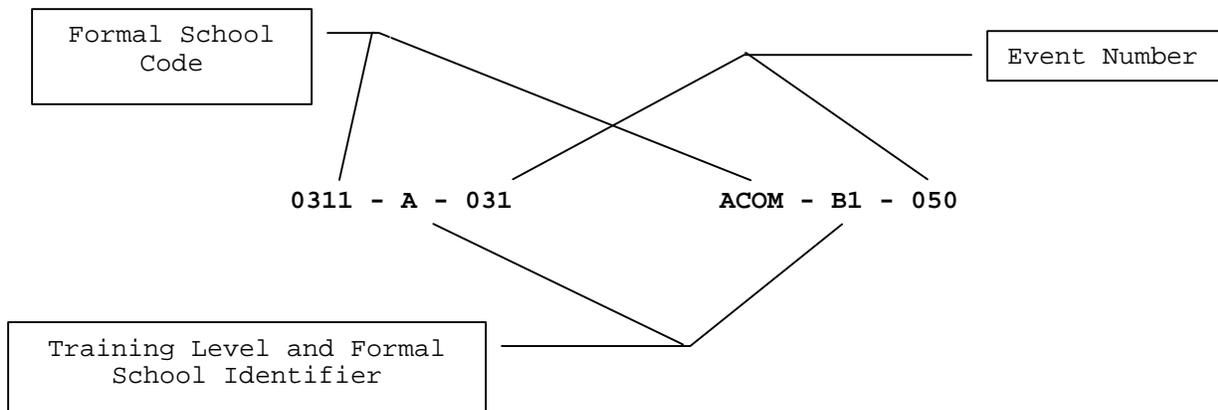

Figure 11-1.--Formal School Event Code.
2. In Figure 11-1, the Formal School Code depicted on the left, (0311) indicates that by completing the school the individual is awarded the MOS. The school is a Level A School, entry level, and the event number is 031. The Formal School Event Code on the right indicates an event for a Marine who has completed the first level of progressive training and is attending one of